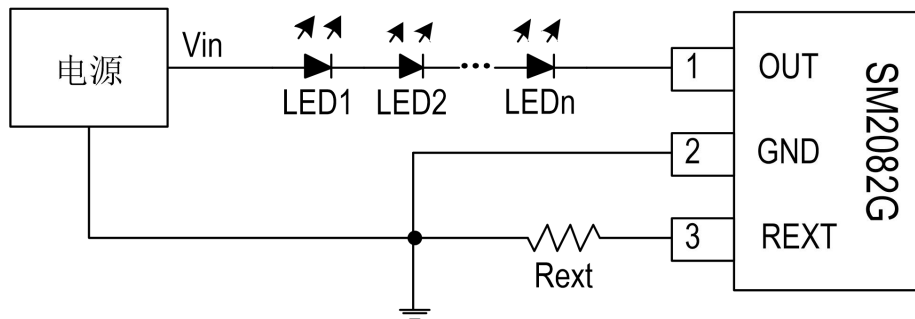

Figure 1. SM2082G application circuit schematic diagram
The operating efficiency of the application circuit shown in Figure 1 is calculated as follows:
- 1) In the circuit of Figure 1 , the OUT port voltage  $V_{OUT} = V_{in} - n * V_{LED}$  . To ensure the normal operation of the chip, it is necessary to ensure that the OUT port voltage  $V_{OUT} \geq V_{OUT\_MIN}$  ;